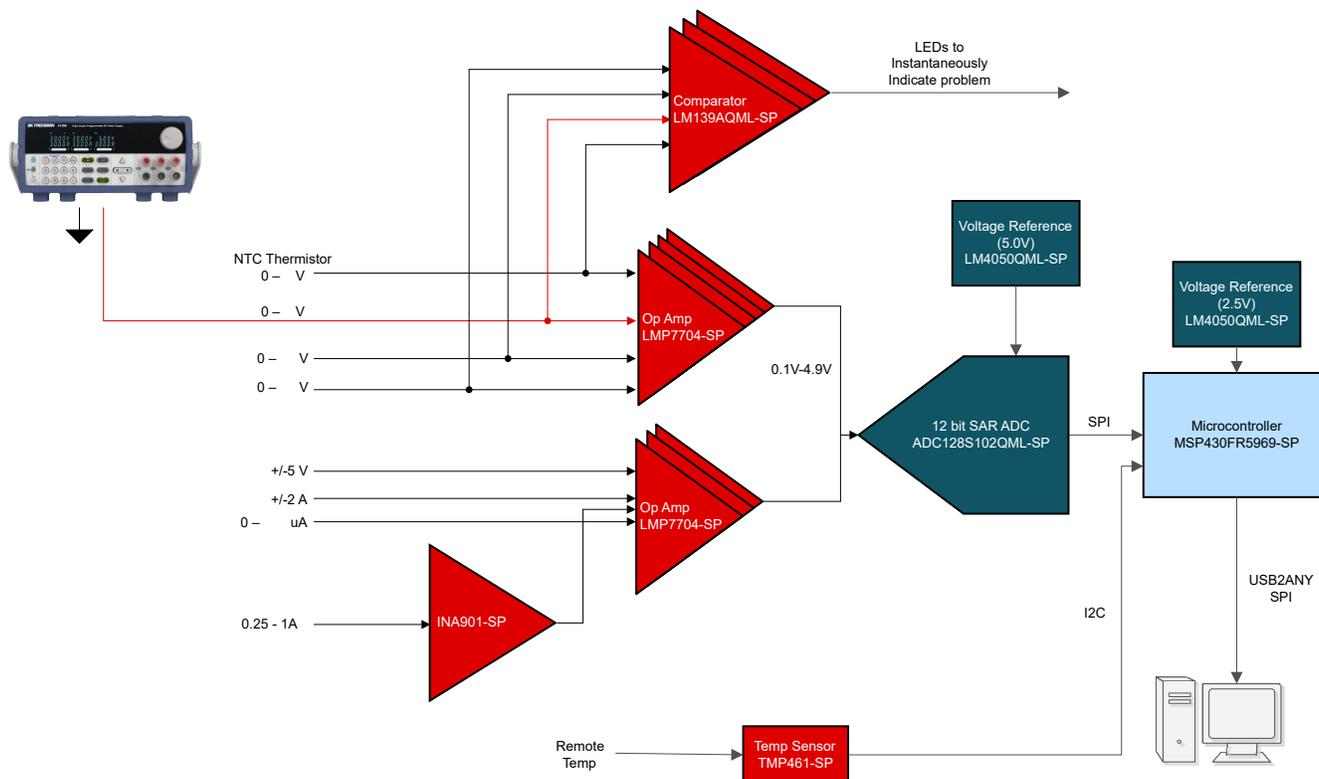

图 3-2. Voltage Monitor Test Setup
图 3-2 illustrates the voltage monitor test setup.
1. Connect the power supply to the desired terminal block as shown in 图 3-2.